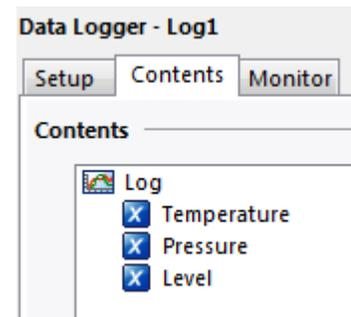

Figure 1
- In Figure 1: a Pen Mask of 1 will display only the Temperature pen, 2 would display only Pressure, 3 would display Temperature and Pressure, 4 would display Level
- Select if gridlines should be displayed on the Time (X) Axis